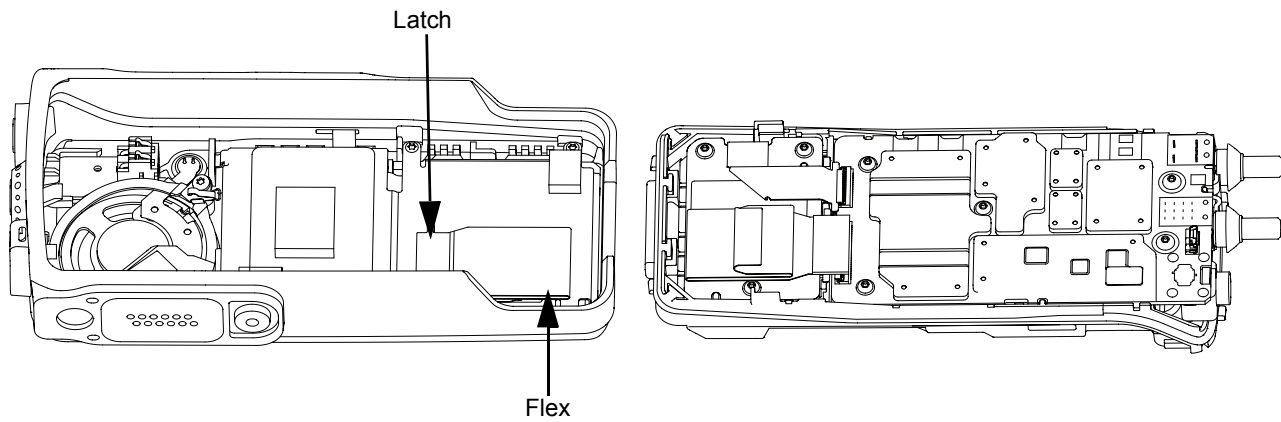

Figure 5-5. Disconnecting the chassis
5. Hook the knob opener under the shroud as shown in Figure 5-5 and detach it with a downward motion.